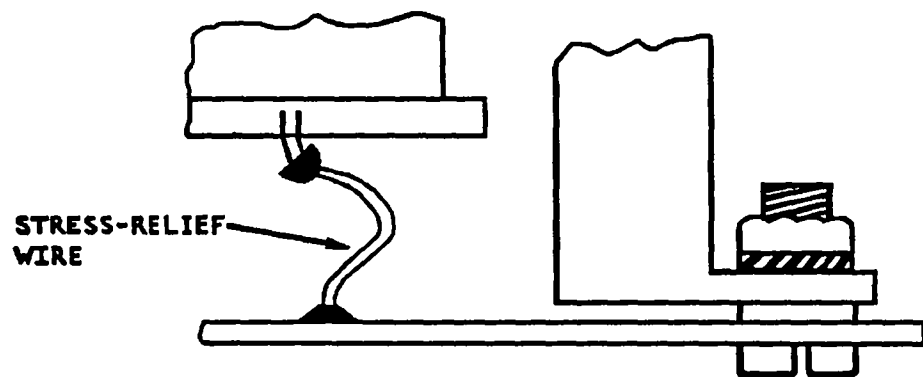

Figure 6-9.1
d. Broken T5 transformer leads can be repaired by soldering a 1.5 inch long, MIL-W-16878/2C 18 AWG stranded, stress-relief wire from the transformer's broken lead to its soldering terminal on the board. (See Figure 6-9.1. Exciter Regulator, Transformer Lead Repair).